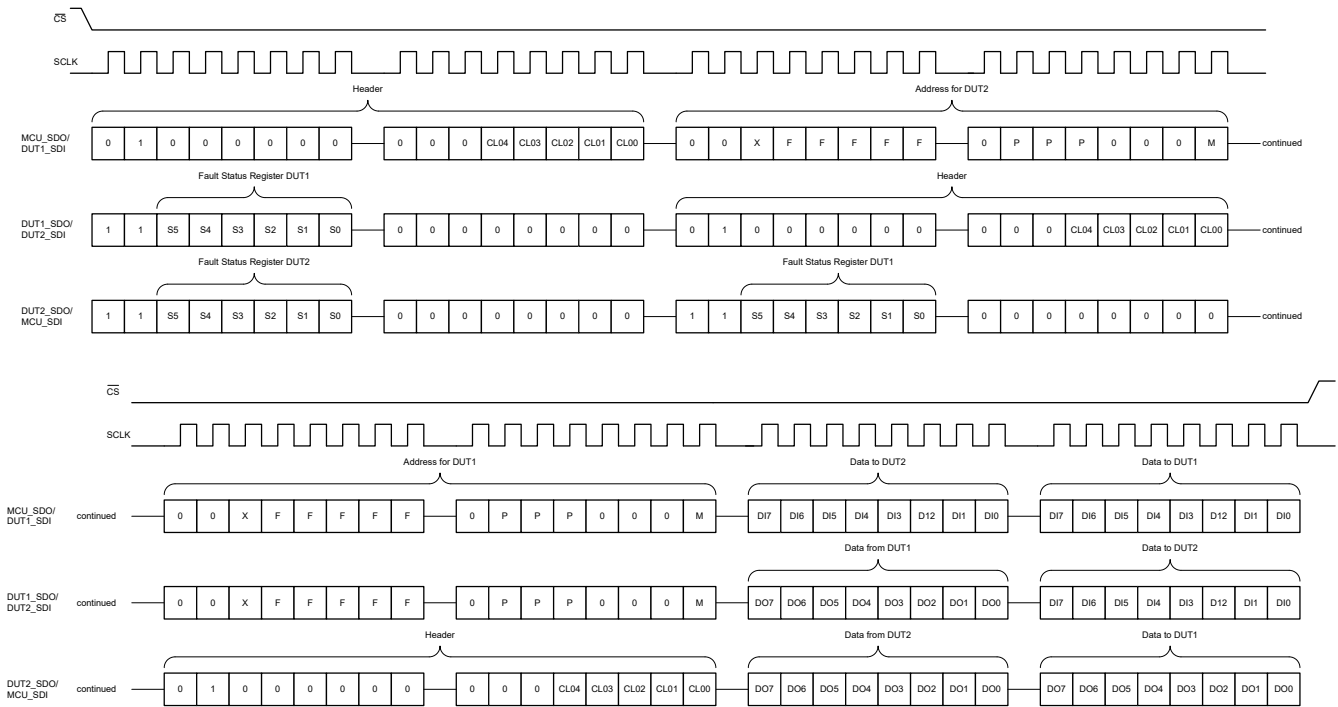

Figure 7-11. SPI Daisy Chain Write
Figure 7-11 shows an example of a daisy chain write for two devices in a daisy chain. The header byte is transmitted with the chain length (CL) value of 2, followed by the address for DUT2, DUT1 and then the 8-bit data-in for DUT2, DUT1. As the first device shifts the data out, the device transmits the status segment, followed by the original header, address for DUT2, data-out from DUT1 and data-in for DUT2. The final device in the chain sends the status, followed by status for DUT1 and finally data-out for DUT2, DUT1.